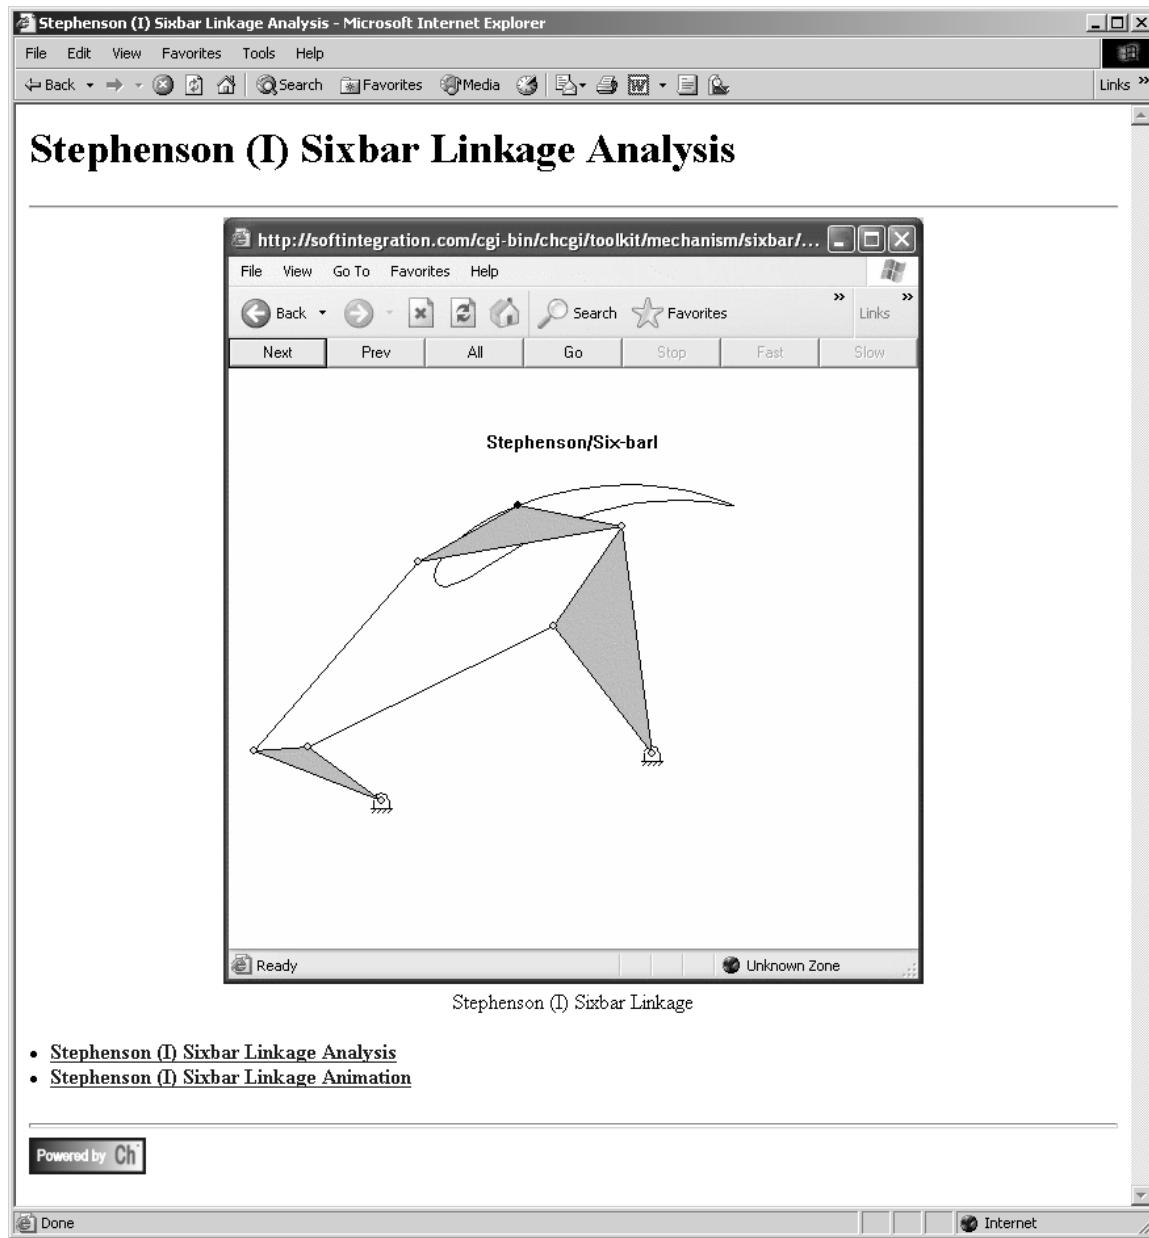
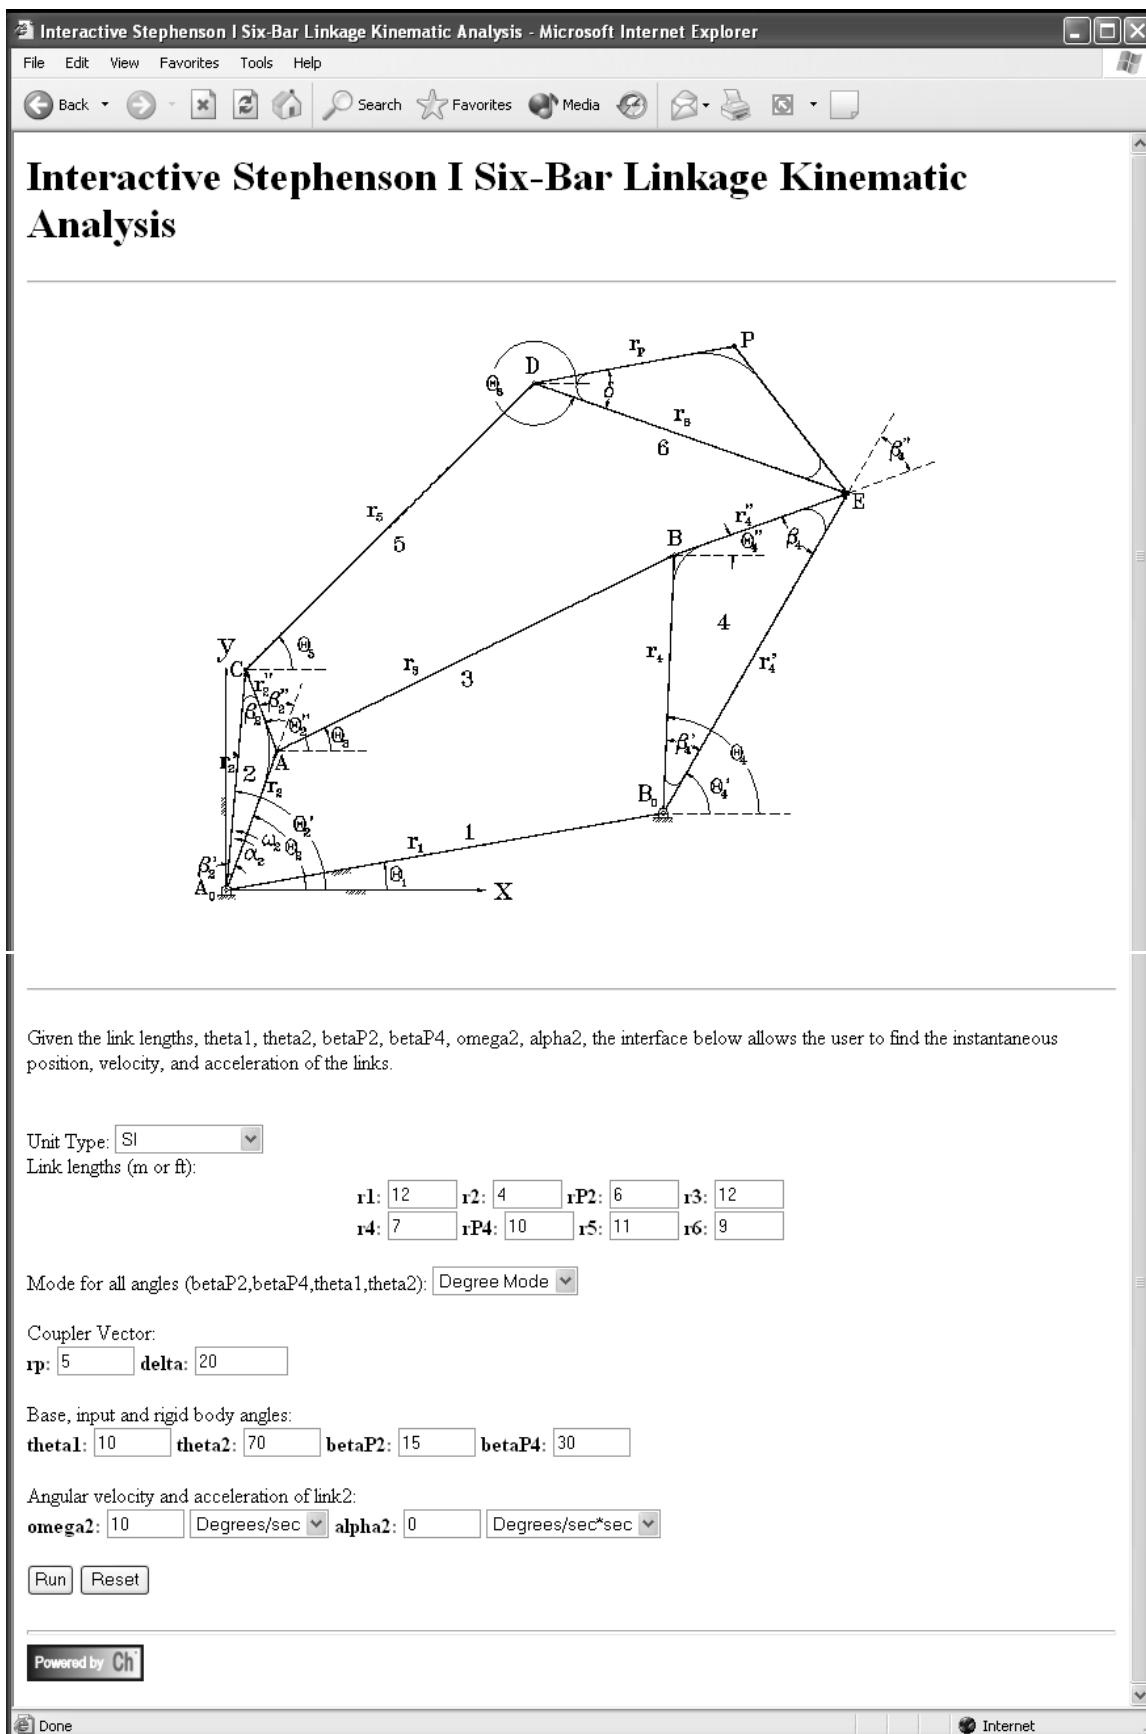

Figure 5.23: Main web page for the Stephenson (I) sixbar.
Figure 5.24: Web page for Stephenson (I) sixbar kinematic analysis.
Analysis of the Stephenson (I) sixbar linkage can also be performed through the world wide web. Figure 5.23 is the main web page for analyzing the Stephenson (I) sixbar. Figure 5.24 shows the internet web page used for kinematic analysis of the sixbar mechanism discussed in this section. Figure 5.25 shows the result of using the web page of Figure 5.24 to analyze the Stephenson (I) sixbar linkage defined in the problems above.